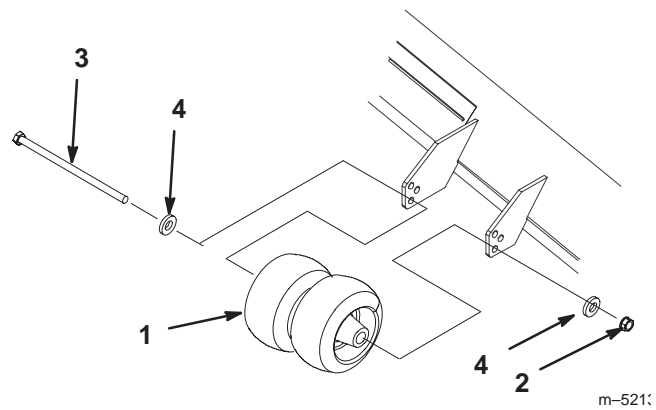

Figure 21
1. After adjusting height-of-cut remove bolt, washers and nut (Fig. 21).
2. Select a hole position so the gage wheels are a minimum of 3/8 in. (10 mm) off the ground for the height-of-cut to be used (Fig. 21).
3. Reinstall the bolt, washers and nut (Fig. 21).